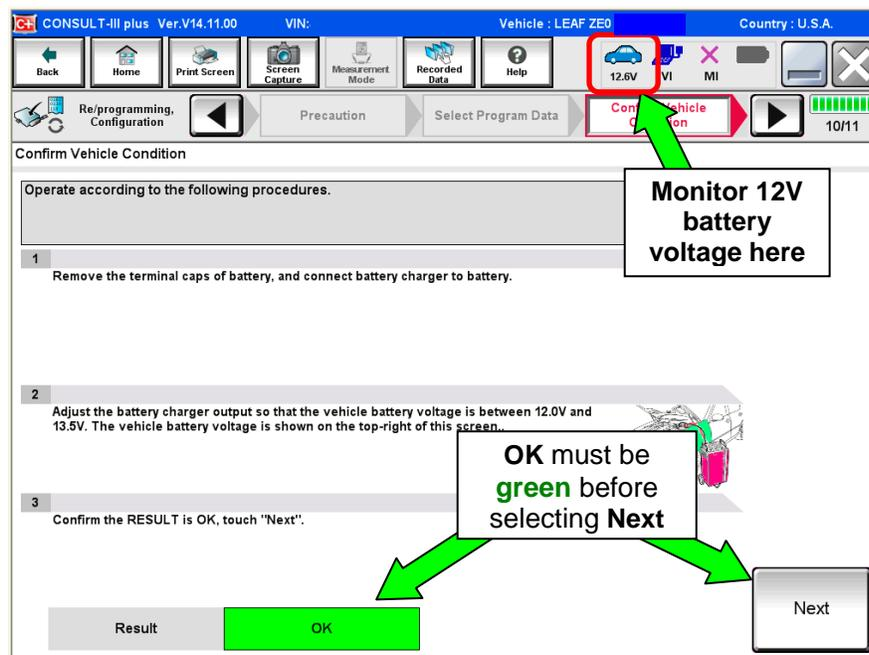

Figure 14
- If no **Saved Data List** is stored, Figure 14 (on the next page) will be displayed. Proceed to step 19.